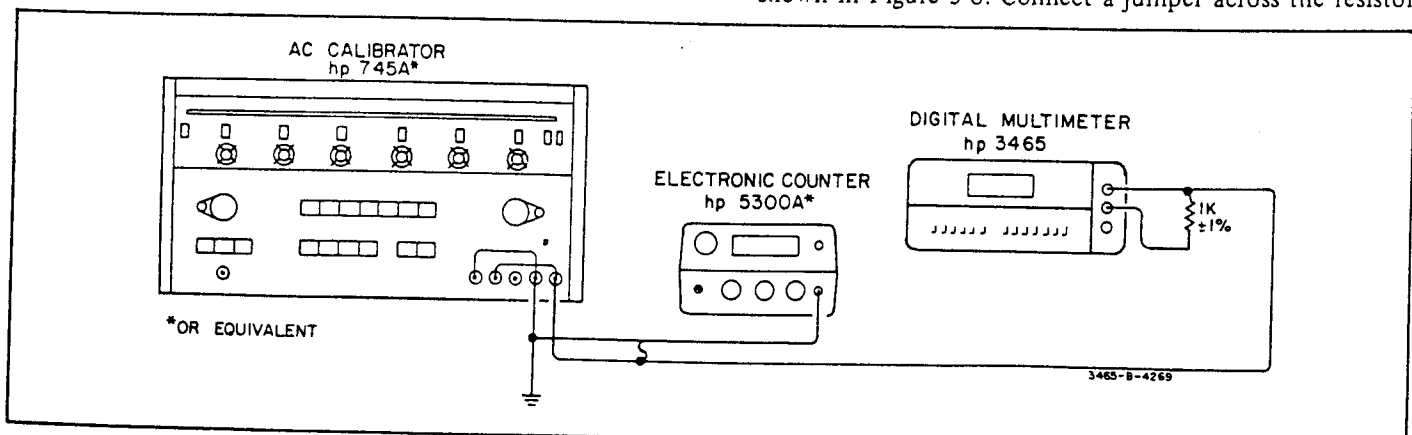

Figure 5-6. AC Effective Common-Mode Rejection Test.
- Set the Multimeter function to DCV (V) and range to 20 mV. Note the Multimeter indication.
- Connect the AC Calibrator to the Multimeter as shown in Figure 5-6.